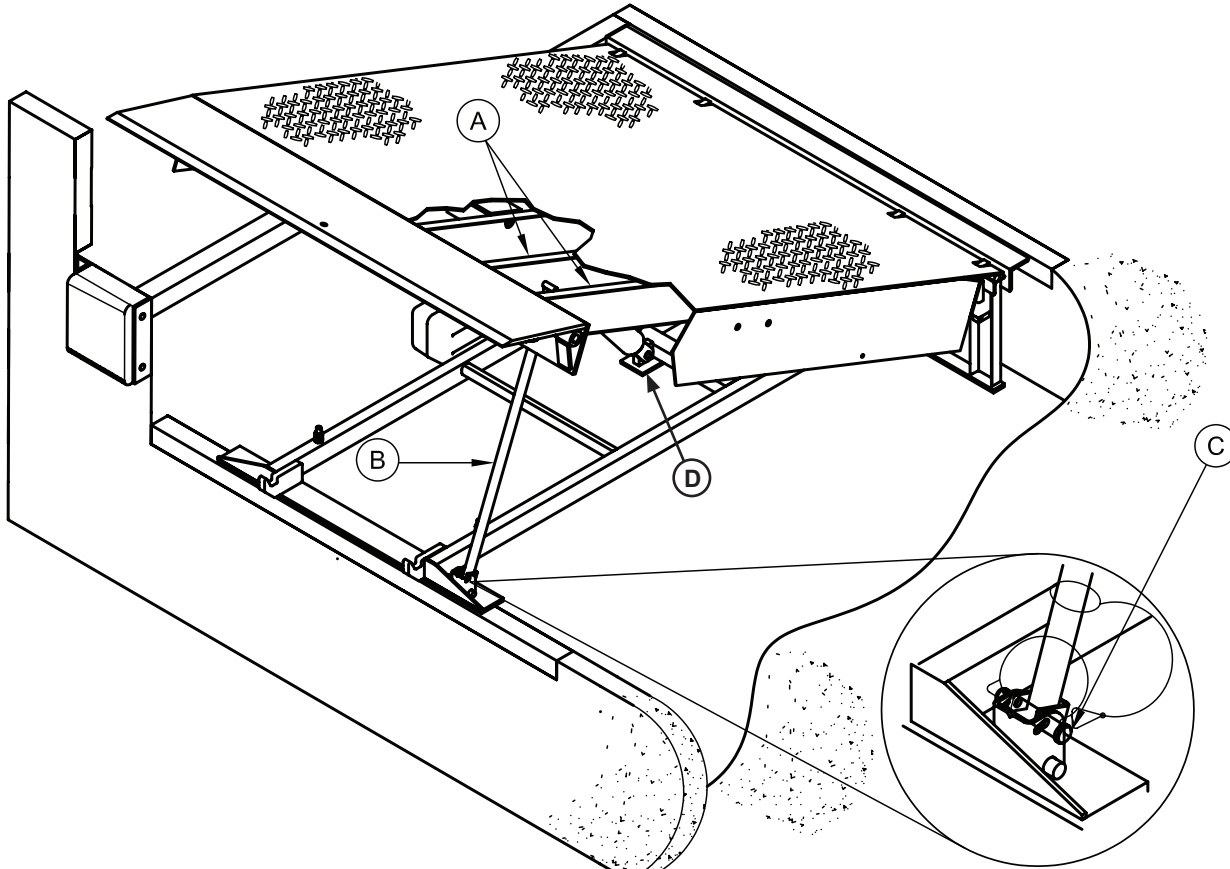

Figure 14
17. Shim and weld the maintenance prop (Figure 14):